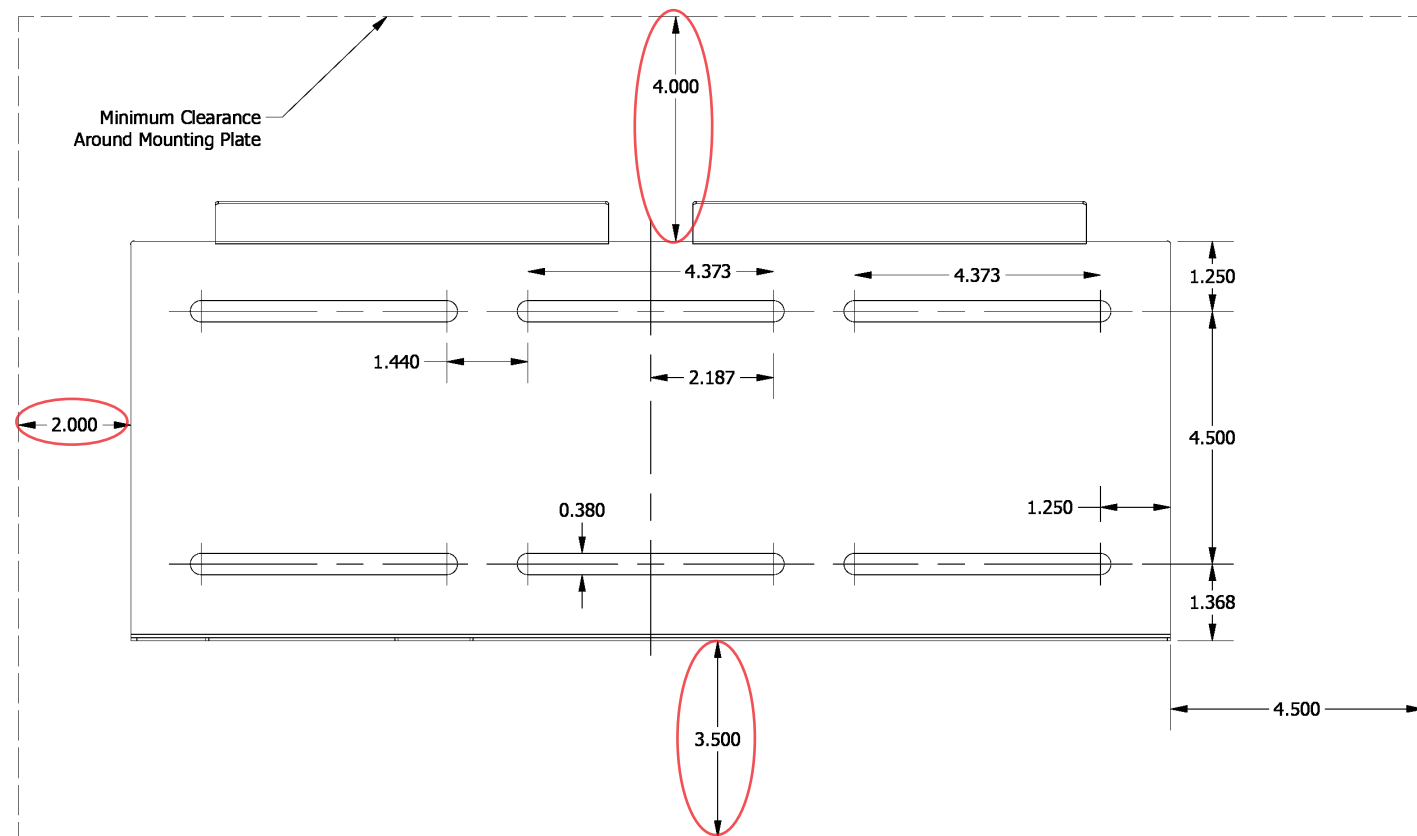

Fig. 1
- D. Drill four pilot holes within the traced markers (two on top set, two on bottom set). Pilot holes sharing the same horizontal axis must be at least 14" apart from each other (see figure 1 above).